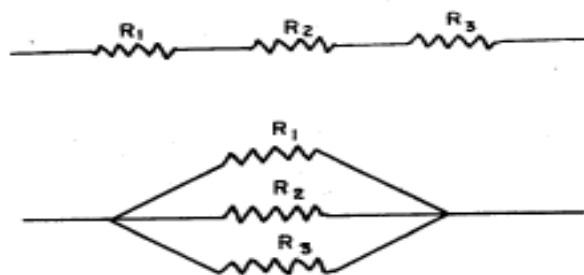

Fig. 7.34
Theory: Resistance S are said to be connected in series when they are connected with the end of one joined to the beginning of the next and so on as shown in Fig. 7.34 [a]. The equivalent resistance to a number of resistances connected in series is equal to the sum of the individual resistances, i.e.,
If, then resistances are arranged with their respective ends connected to common terminals, they are said to be connected in parallel as shown in Fig. 7.34 (b). The reciprocal of equivalent resistance to a number of resistances connected in parallel is equal to the sum of the
- 2) Join the resistance R_1 , R_2 , R_3 etc. in series as in Fig. 7.34 (a) and determine the equivalent resistance of the series combination by means of the P.O. Box. Show that relation (1) holds good.
- 3) [iii] Connect the resistances R_1 , R_2 , R_3 etc. in parallel as in Fig. 7.34 (b) and determine the equivalent resistance of the parallel combination as before. Show that relation (2) holds good.